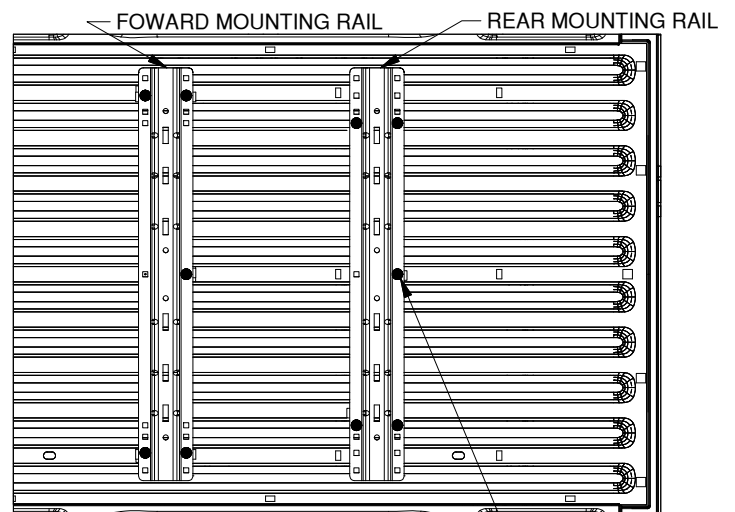

Figure A2: Detail view over bed, showing drill locations for the forward and rear bed rails.
- 2. Mark hole locations:** While carefully ensuring the mounting rail does not move, use a center punch tool to mark the 5 drill locations on the rear rail. See figure A2 for hole marking locations for this installation (forward rails will install on a later step). Once all 5 rear rail locations are clearly marked, move the bed rail out of the way and drill each location with an 1/8" drill.
3. **Drill forward mounting holes.** Using the same methods as used for the rear mounting rail, mark and drill the 1/8" holes for the forward mounting rail. Refer to "DRILL REAR MOUNTING HOLES" section, step 2, on a previous page. Notice that the hole locations are slightly different than the rear rail, see figure A2 (on the second page).